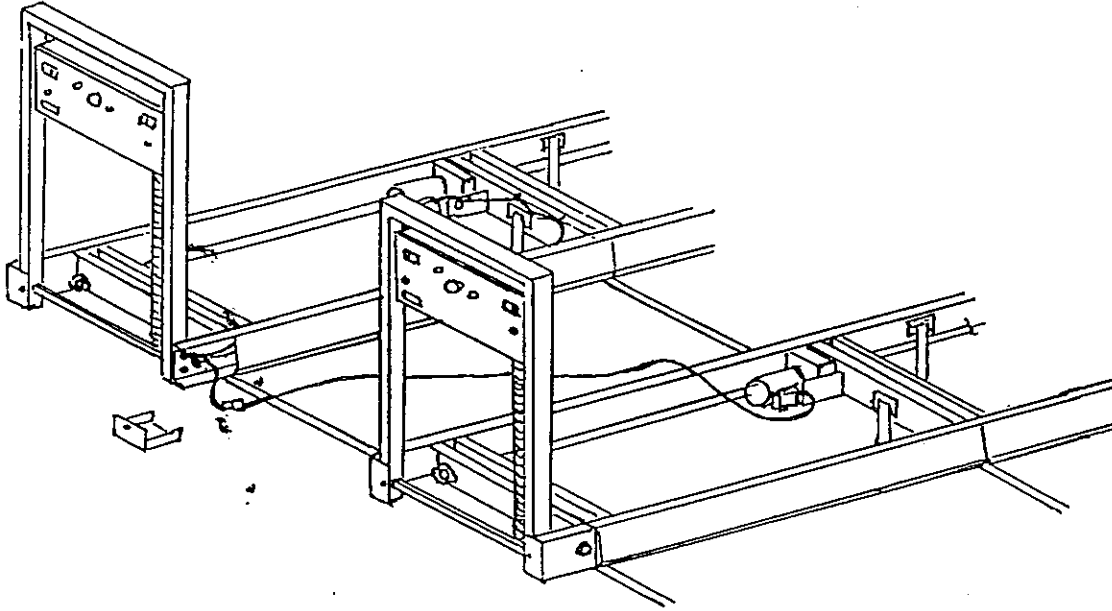

Figure 2.4
STEP 2.4: Check motor. Disconnect motor plug and hook it up to an adjacent unit to see if it runs. See Figure 2.4. If it does not run, replace motor.